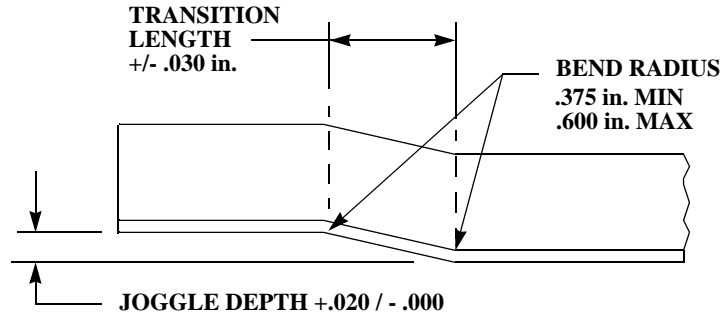

FIGURE 8: TOLERANCES ON JOGGLES
3.8.1. Refer to Figure 8 for limits of tolerance applicable to joggled sheet metal sections;